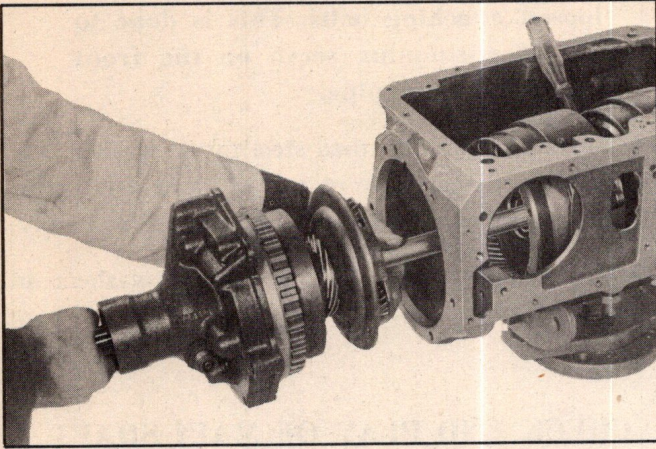

Fig. 293—Installing Reverse Assembly
6. Install main shaft and reverse assembly into rear end of transmission case, aligning stationary cone lock key into keyway in case (Fig. 293). Then align rear bearing retainer bolt holes to case. Rear bearing retainer will not fit tightly against the case at this point.